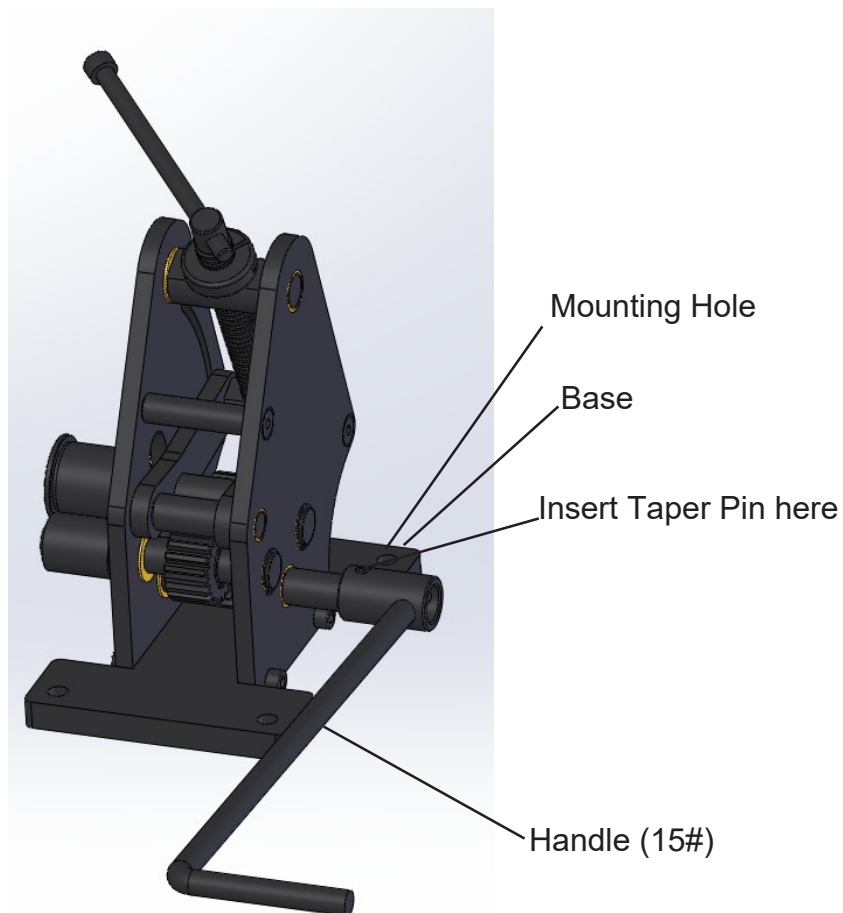

Figure 1
1. Slide the Handle (15#) onto the Drive Shaft, make certain that the holes in the Handle (15#) line up with the hole in the Drive Shaft. see **Figure 1**.
2. Secure the Handle (15#) to the Drive Shaft using the Taper Pin . Insert the Taper Pin into the hole as seen in **Figure 1**. If necessary, lightly tap the Taper Pin into place.